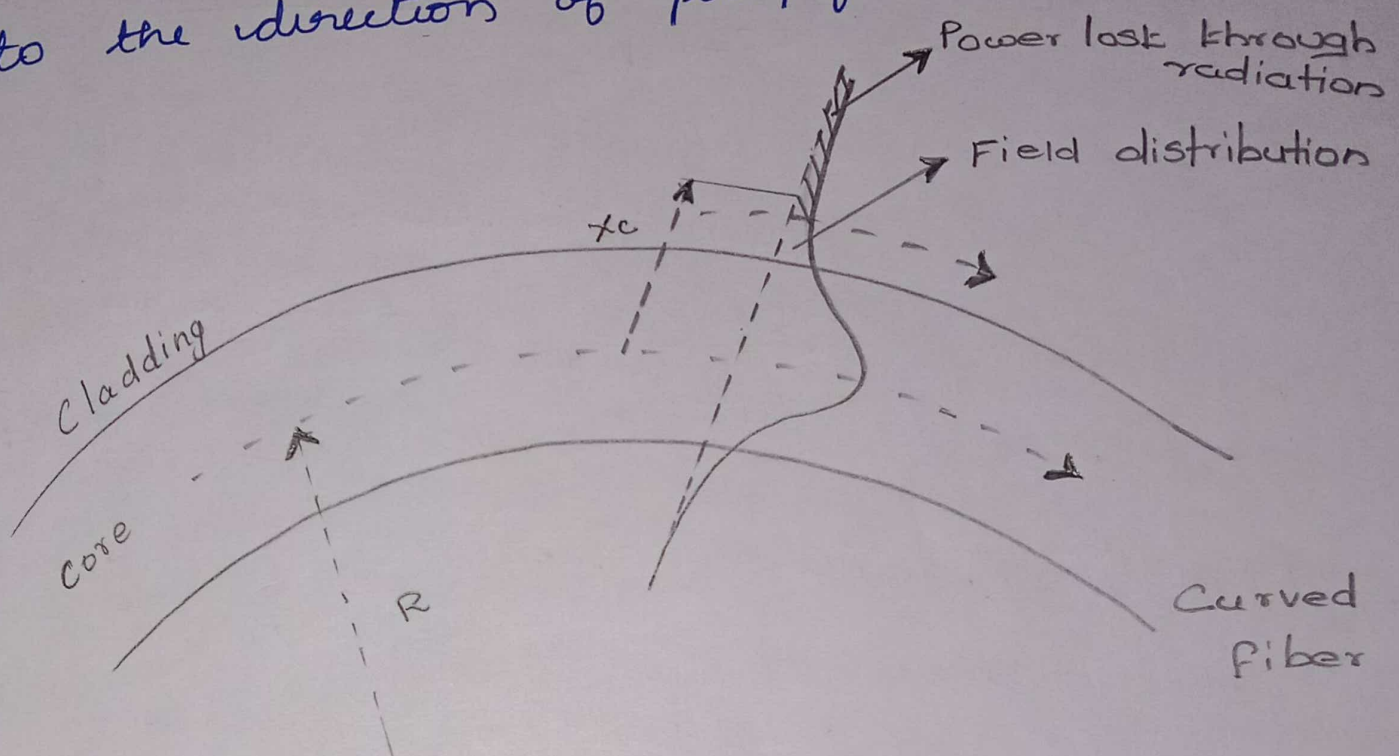

Fig. 2.4. An illustration of the radiation loss at fiber bend
1) MACROSCOPIC BENDING LOSSES (OR) LARGE RADIUS LOSSES:
* Fig 2.4 shows that the part of the mode which is on the cladding outside the dashed arrowed line may be required to travel faster than that on the inside.